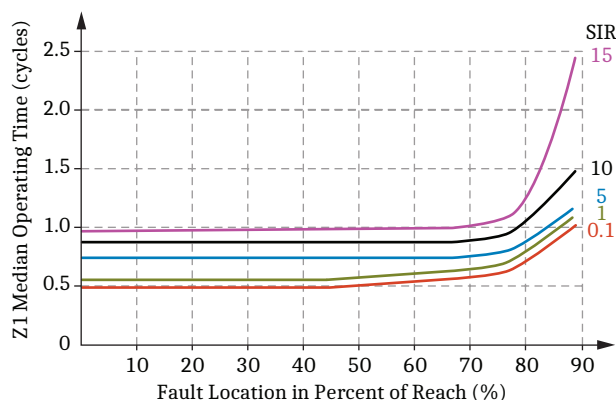

Figure 18 Zone 1 Phase and Ground Distance Elements Operating Times for a Ratio Voltage (Magnetic PT or CCVT With Equivalent Transient Response)
- Filtering and logic are optimized for both speed and reach accuracy. Zone 1 has a transient overreach better than 2 percent for magnetic VTs and 8 percent for CCVTs. See Figure 18 for Zone 1 operating times.